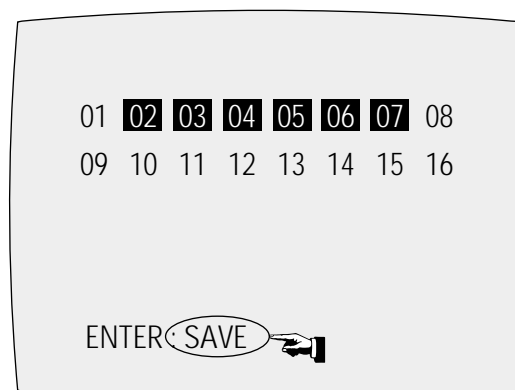

Fig. 5-18
- 5) Press the “ENTER” button of remote control again to store the option number. (“SAVE” is displayed for a second as shown Fig. 5-18 this setting is completed.)